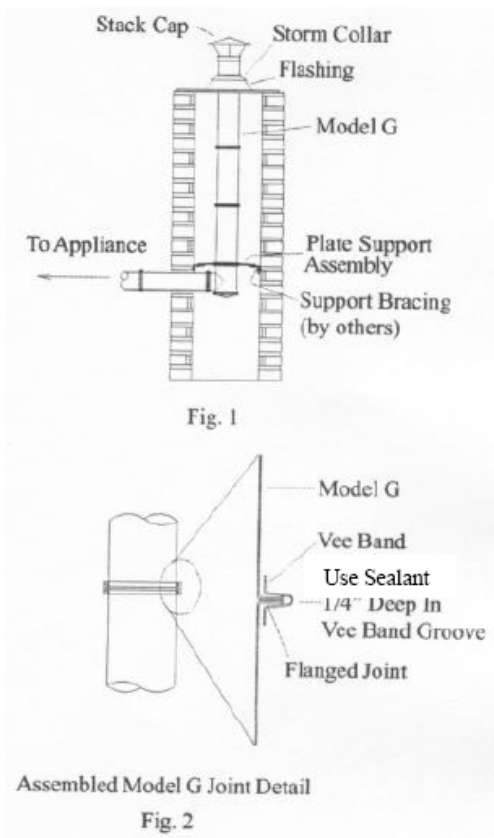

Fig. 3 – Recommended “Notice” for posting near appliance outlet.
- 18.) **POSTING OF NOTICES:** Upon completion of installation and before the system is put into operation a "Notice" should be posted in the appliance room, near the outlet of the appliance. This "Notice" should contain, as a minimum, the information shown in Fig. 3.